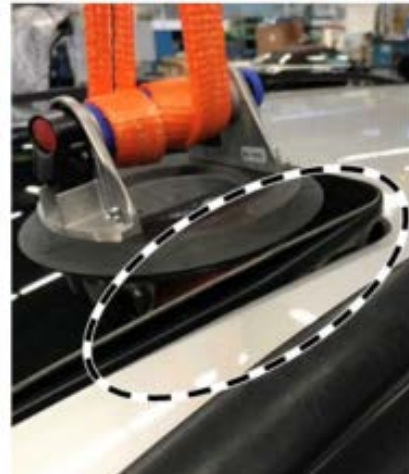

Figure 5 (**NOT OK**)
- i** If the sliding roof panel detaches from the padding of the tilting/sliding roof frame at one of the test positions (see **figure 5**), the sliding roof panel must be replaced.